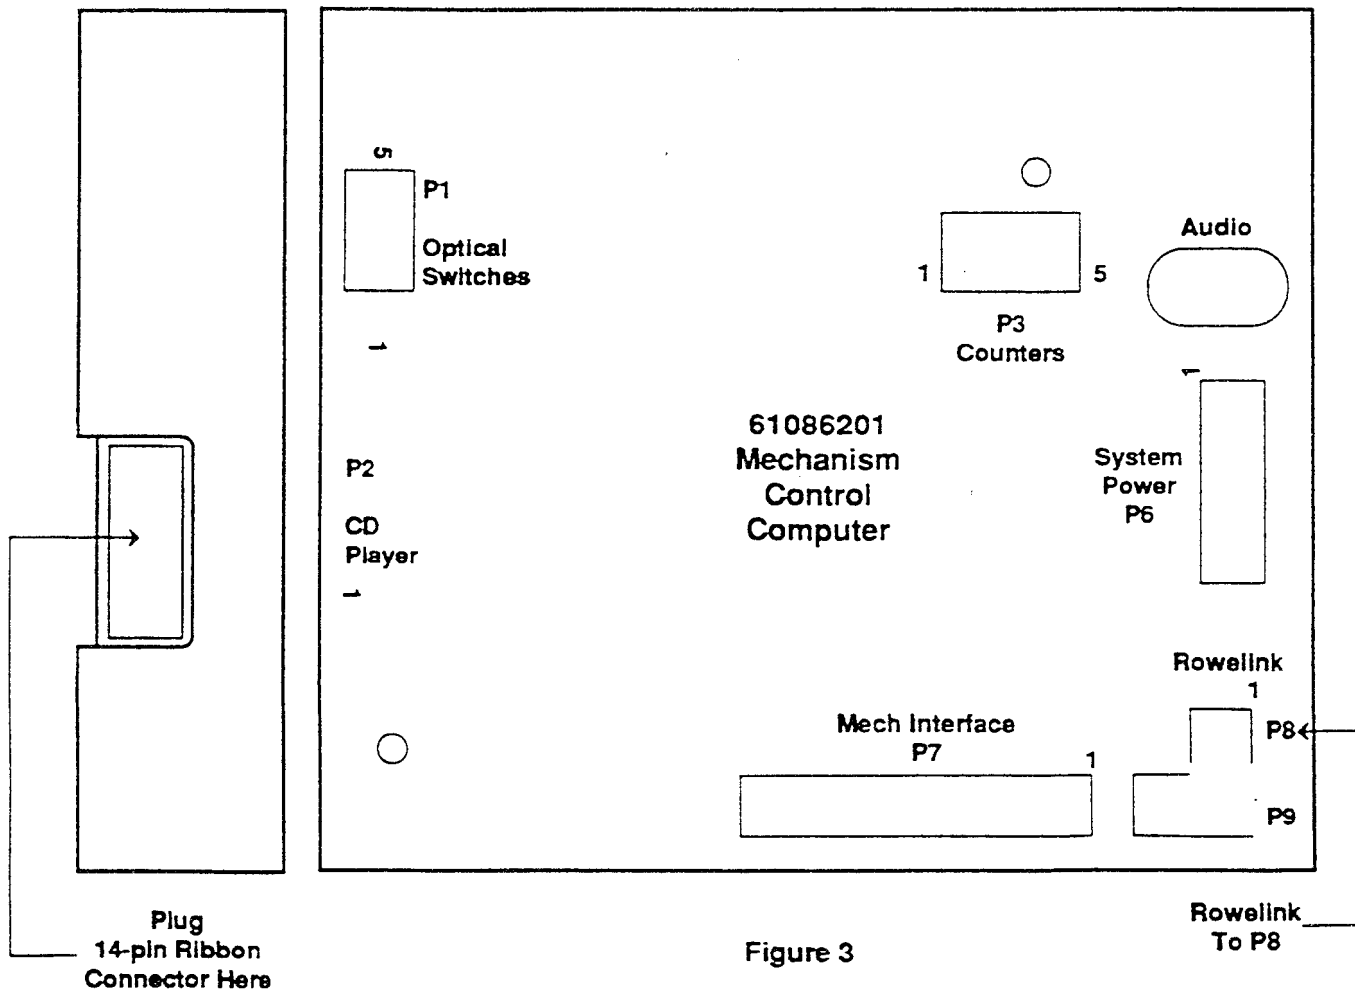

Figure 3
10. For locations of harness connectors to the new Mech Control Unit See *Figure 3*.